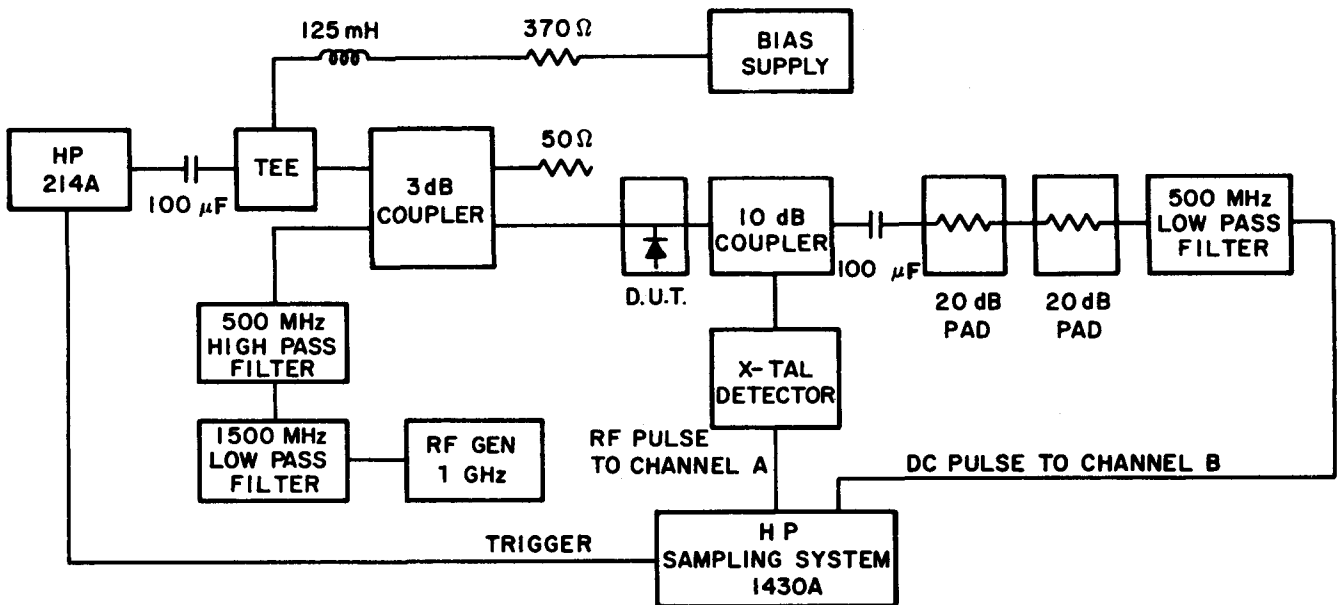

FIGURE 1 TEST CIRCUIT FOR SWITCHING TIME
- The speed with which the diodes will switch RF power depends on the shape of the waveform and the bias conditions. The typical data section shows switching times measured using the circuit of Figure 1; t_{fr} is from forward to reverse bias, and t_{rf} is from reverse to forward bias. The MA-47082 is measured between 50 mA forward and 50V reverse; the MA-47084 is measured at 150 mA and 100V; all others from 100V to +100 mA or vice versa.